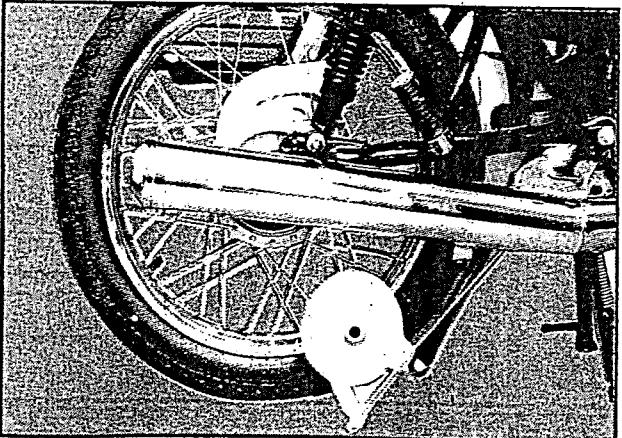

Fig 6.55
- Tilt the motorcycle to the left side and dismount the rear wheel (fig 6.55)
- Pull out the brake panel (fig 6.55)